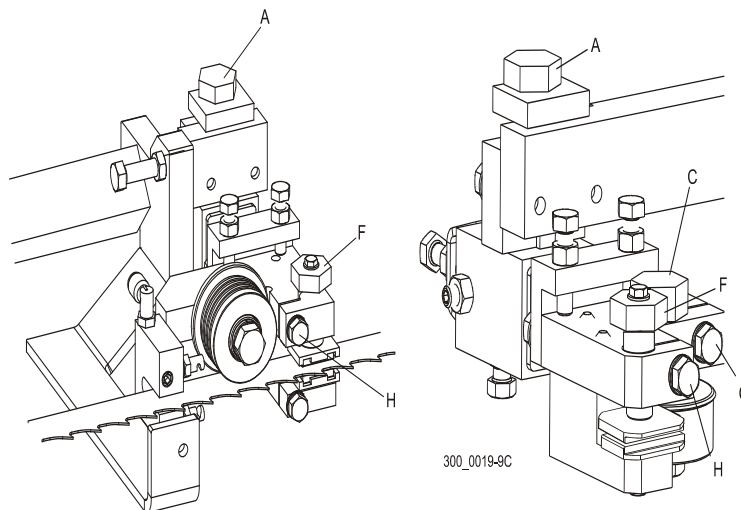

FIG. 3-18
See Figure 3-18. Optional Block Guides: Adjust the blade guides so they do not touch the blade in any way. Loosen clamp bolt (H) and turn the top guide block bolt (F) counterclockwise to raise the top guide block off the blade. Turn blade guide assembly bolt (A) counterclockwise to move the bottom guide block down off the blade. Check that the blade guide roller does not touch the blade. Loosen clamp bolt (G) and turn roller bolt